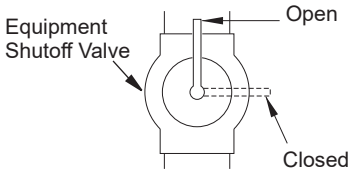

Figure 12 - Equipment Shutoff Valve
1. Close equipment shutoff valve (see Figure 12).
4. Check all joints from equipment shutoff valve to control valve (see Figure 12 or 13, page 12). Apply a noncorrosive leak detection fluid to all joints. Bubbles forming show a leak.